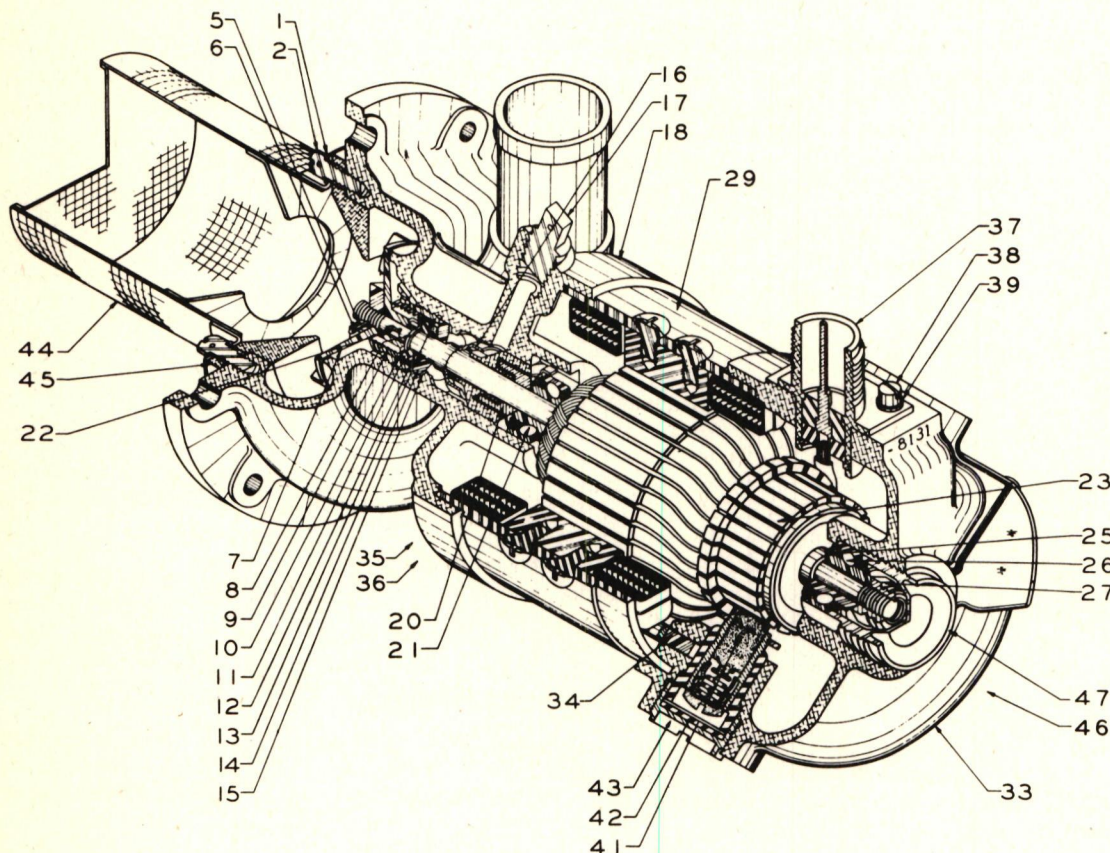

Figure 7-XVI - Fuel Booster Pump, Detailed Assembly
8. Fuel Booster Pump. (See fig. 7-XVI)
f. Disassembly of Electric-Driven Fuel Pump, Thompson TFD 8000.- (Refer to fig. 7-XVI.)
(1) Take out screws (2) and remove screen (44) and throat (45).
(2) Remove cotter pin (6) by gripping it with side-cutting pliers and gently prying against impeller nut.